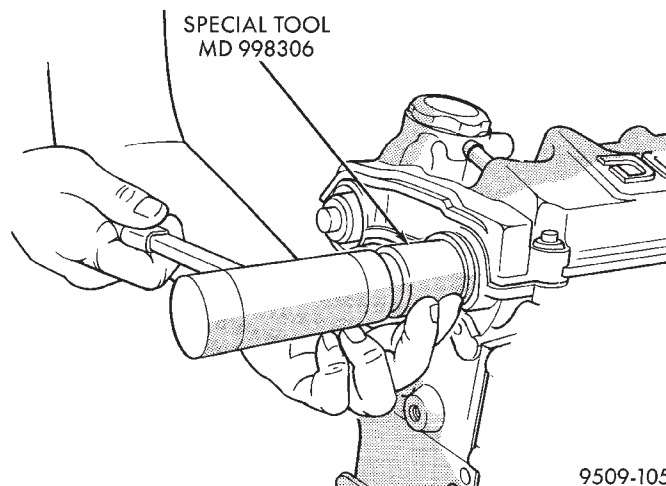

Fig. 63 Camshaft Seal—Installation
(1) Shaft seal surface must be free of varnish, dirt or nicks. Polish with 400 grit paper if necessary.
(2) Install camshaft seal into cylinder head using Special Tool MD-998306 until flush with head (Fig. 63).